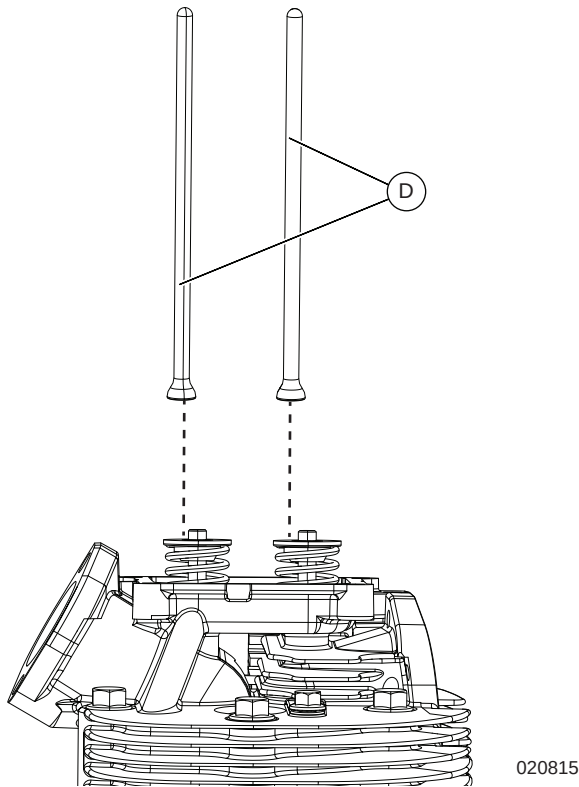

Figure 6-37. Remove Pushrods
2. See Figure 6-37. Remove the two pushrods (D).